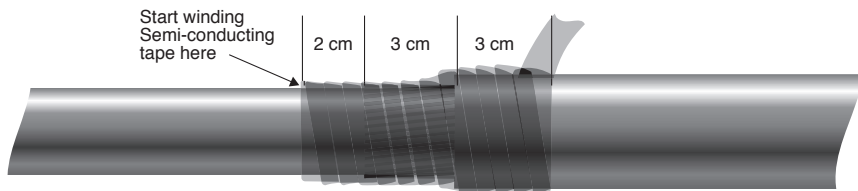

Figure 27.
7. Using the semi-conductive tape provided, starting 2 cm in front of the end of the outer copper screen tape (or 5 cm in front of the black outer sheath), stretch and wrap the tape back over the tape and 3 cm over the black with 50 % overlap, securing the outer copper screen tape in place. This should use approximately 50 cm of the tape (Figure 27).